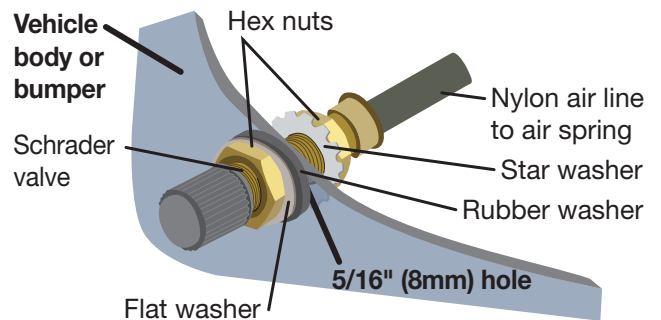

Fig. 22
4. Install the Schrader valve in the chosen location (Fig. 22).